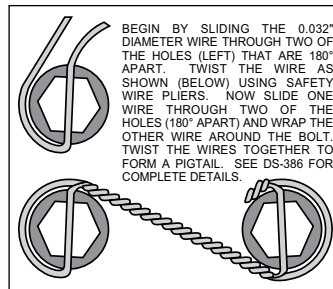

Figure 3. Safety Wire Diagram
- Orient the rotor (6) and the hat (7) as shown in Figure 1 and Photo 2. Attach rotor to hat using bolts (9) and washers (8). Apply red *Loctite*® 271 to the bolt threads and torque to 155 in-lb using a criss-cross pattern. For an added measure of security, the bolts may be safety wired using standard 0.032 inch diameter stainless steel safety wire as shown in Figure 3. Please refer to Wilwood's data sheet DS-386 (available at [www.wilwood.com/Pdf/DataSheets/ds386.pdf](http://www.wilwood.com/Pdf/DataSheets/ds386.pdf)) for complete safety wire installation instructions.